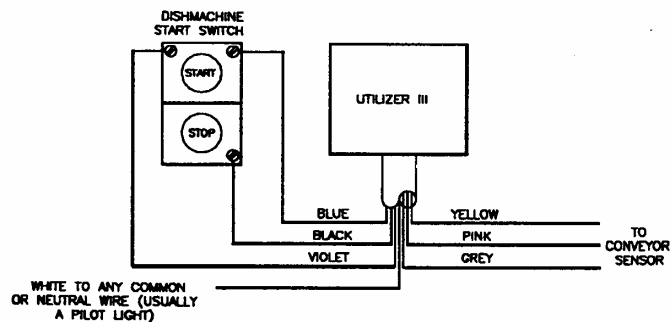

Figure 17. Wiring for 440-480 Volts
3. Attach BLACK wire from the Utilizer III to the terminal on the stop switch just tested. See Figure 17.